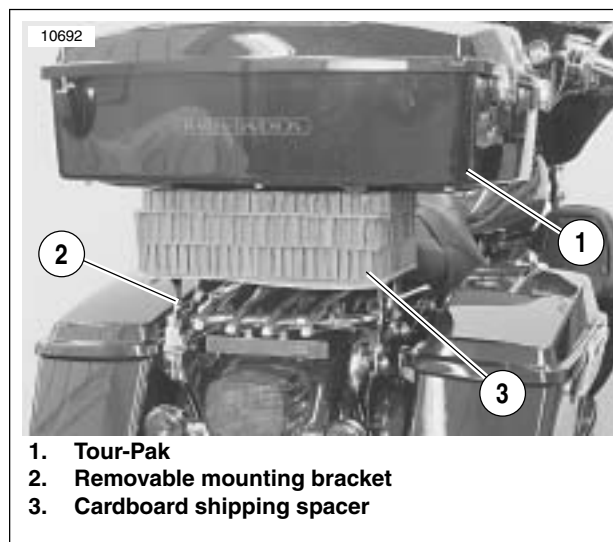

Figure 7-14. Tour-Pak Mounting Assembly as Shipped
1. See Figure 7-14. The FLHTCSE² is shipped with the Tour-Pak (1) mounted forward of its normal mounting position, on the removable mounting bracket (2) with a cardboard shipping spacer (3) in between Tour-Pak and mounting bracket. This temporary mounting allows motorcycle to fit in shipping crate.